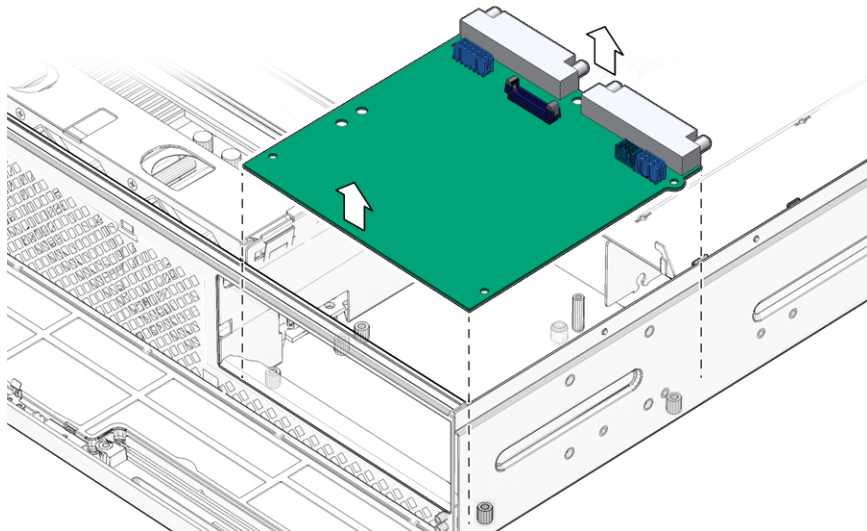

FIGURE 5-29 Lifting the Power Board From the Chassis
4. Lift the power board out of the chassis and set it aside on an antistatic mat (FIGURE 5-29).
2. Lower the power board into the chassis, aligning the board's holes with the standoffs in the chassis (FIGURE 5-29).